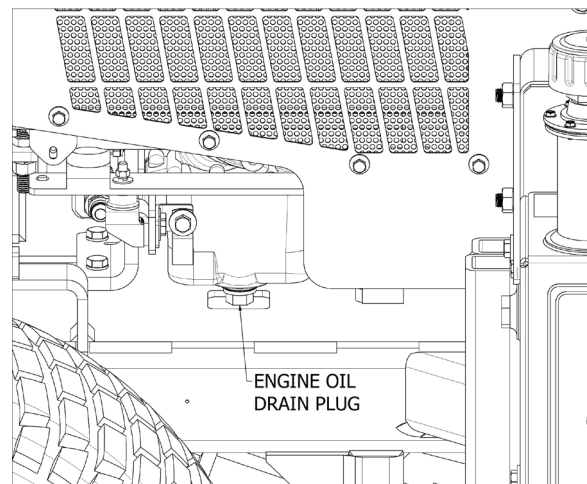

Figure 5.7 – Engine Oil Drain Plug
1. Locate the engine oil drain plug on the right side of the machine on the bottom of the engine oil pan. See Figure 5.7. Change according to the maintenance schedule at the beginning of the chapter or more frequently if operated in severe conditions.